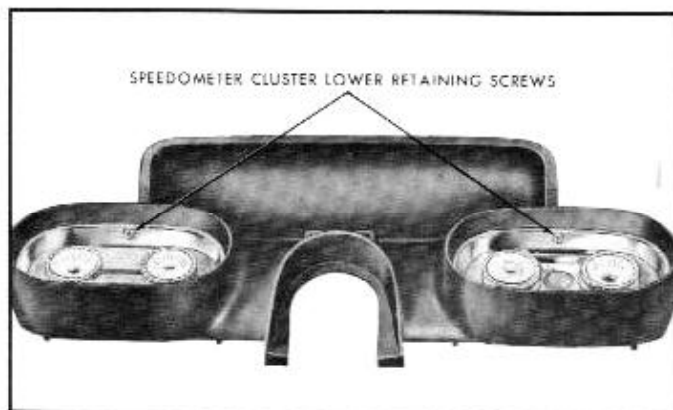

Fig. 11-13—Speedometer Cluster Lower Screws
4. Remove two speedometer cluster retaining screws located respectively in left and right instrument cluster. See figure 11-13.